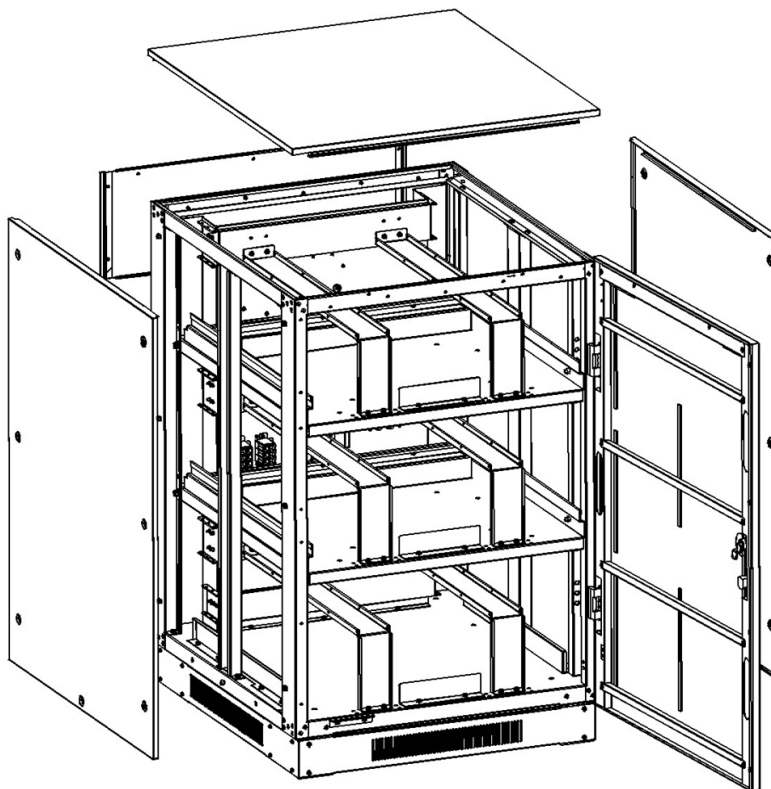

Figure 5-7
2. Remove the top, right side and left side plates (Figure 5-7).